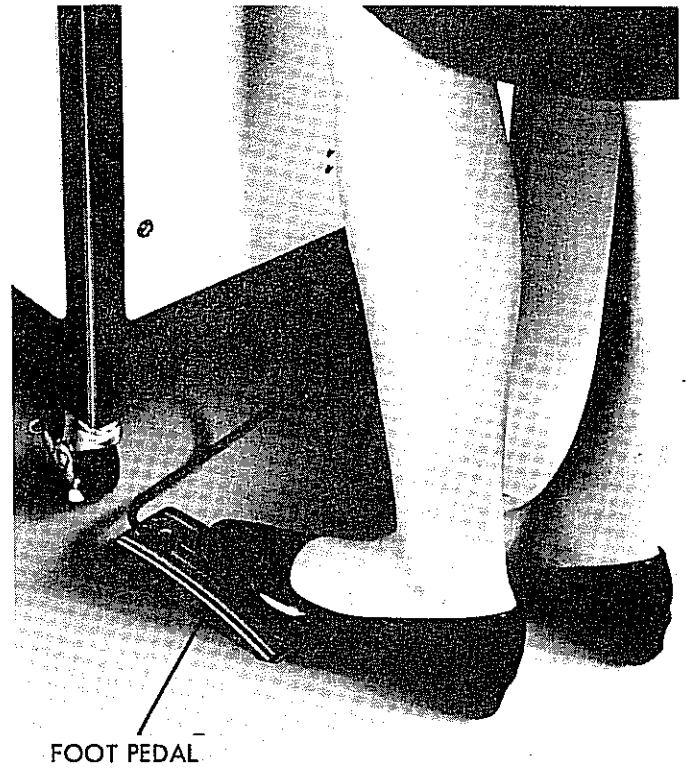
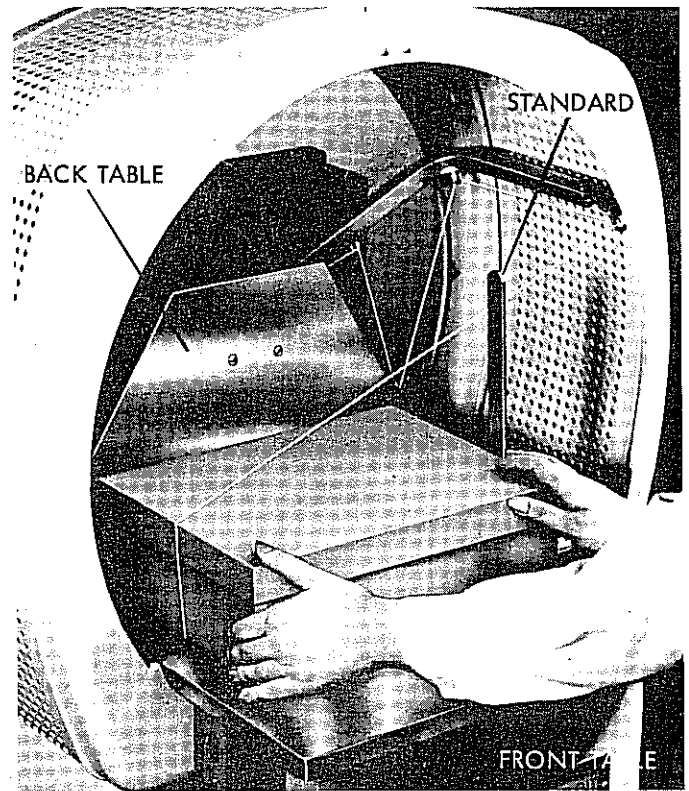

Figure 27. Depressing Foot Pedal to Start Tying Cycle
Figure 28. Twine Arm Making One Wrap
4. Momentarily depress foot pedal holding package firmly until tying cycle is completed (figure 27).
4. Momentarily depress foot pedal (figure 27) holding package firmly until twine arm makes one wrap (figure 28).